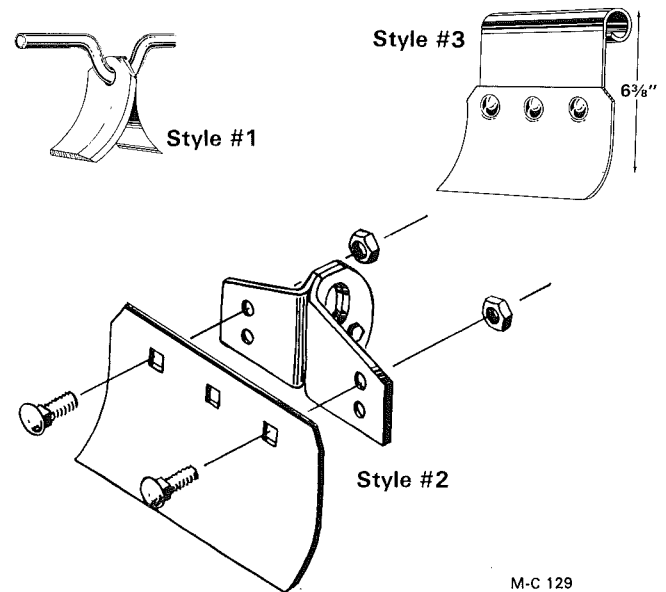

Figure 13
**IMPORTANT:** The shredding screen will work properly with Style 1 and Style 3 knives. Style 2 knives must be mounted to the upper set of holes in the knife hanger so that the knives clear the shredding screen, see Figure 13.
**IMPORTANT:** If style 2 knives are being used, they must be mounted to the upper set of holes in the knife hanger so that the knives clear the retarder bar, see Figure 13.